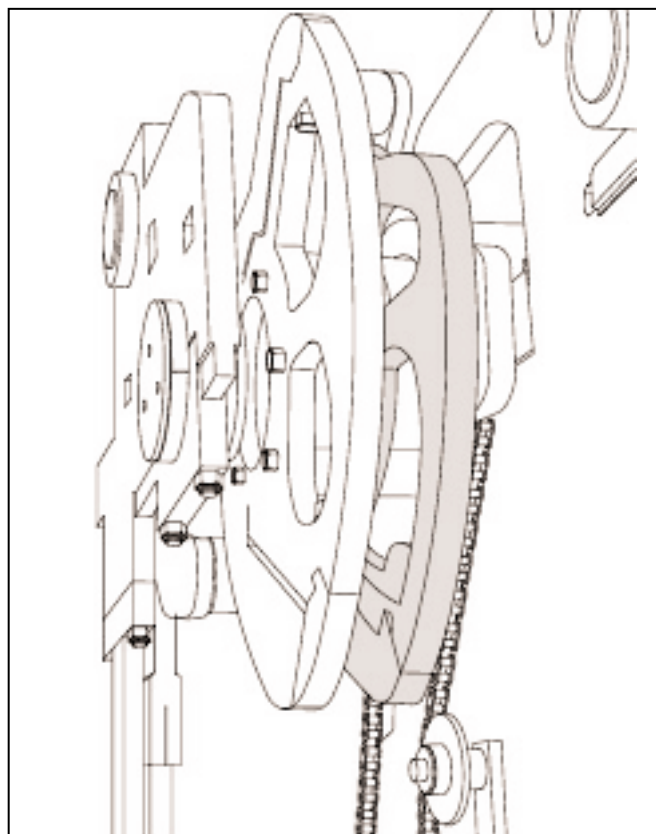

Figure 7.4 STRIPPER HEAD RAISING CAM.
7.3 Run the machine to “second stop” position which is controlled by the rotary sensor. The roller should be centered with the “second stop” marks on the pallet receiver cam. “Second stop” is the point where the stripper head shaft roller just falls off the high lobe of the stripper head raising cam. The stripper head raising cam is the second cam from the outside on the right side of the machine (see figure 7.4).